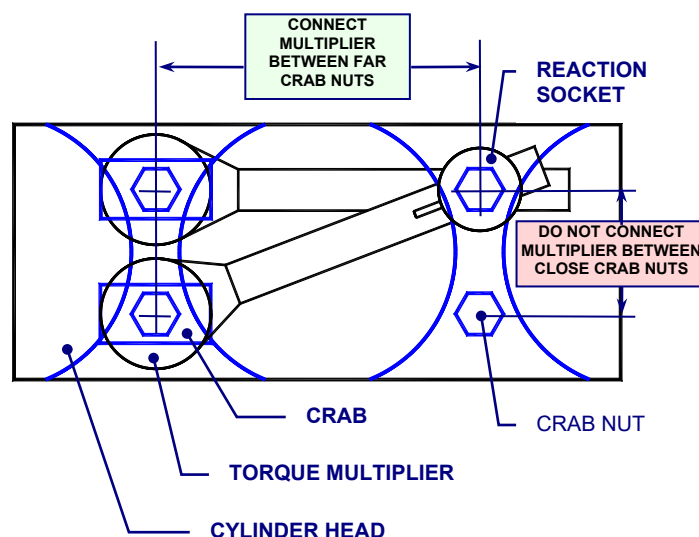

FIGURE 1
- 3.3 Position the drive socket on the nut to be torqued and the reaction socket over the reaction nut (See Figure 1 below).
- 3.6 The 221 and 221-1 Torque Multiplier Sets can only be used as shown in figure 1 below. Never place torque multiplier across the two closer crab nuts.